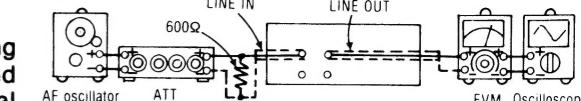

Fig. 6
• The serial number plate of the product is attached to the back chassis (shown in fig. 6).
1. Test equipment connection is shown in Fig. 6.
6. If it is not within the standard, adjust VR3 (L-CH) {VR4 (R-CH)} and repeat the step (2), (3) and (4) until the output is within the standard.